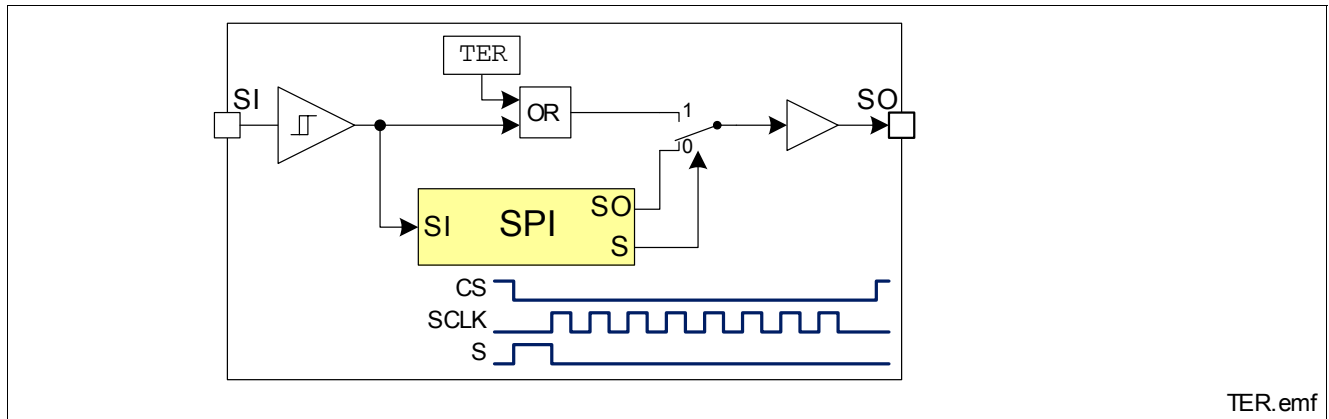

Figure 11 Transmission Error Flag on SO Line
- SO changes from high impedance state to high or low state depending on the logic OR combination between the transmission error flag (\overline{TER}) and the signal level at pin SI. As a result, even in daisy chain configuration, a high signal indicates a faulty transmission. The transmission error flag is set after any kind of reset, so a reset between two SPI commands is indicated. For details, please refer to Figure 11. This information stays available to the first rising edge of SCLK.